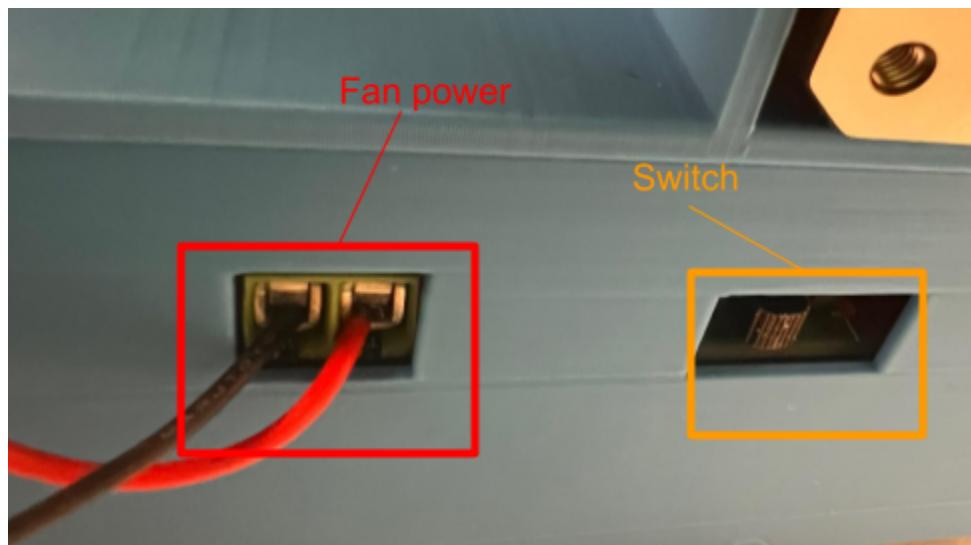

Figure 1.4: Back Side Panel Layout (JL)
The fan connector should be wired with red on the left and black on the right. See figures 1.4 and 1.9 for more details (JL).